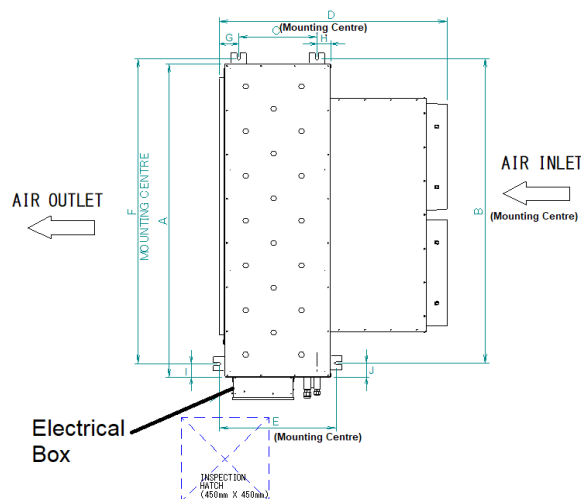

Fig. 3
- (1) Refer to Table 1 and Fig. 3 for suspension bolt position and horizontal representation of the indoor unit.
- (2) Install the suspension bolt. (Fig. 3 & 4)
Attach the hanging bracket to the 8 mounting holes (16 mounting holes for models FDYA140/160AV1) located on the sides of the unit. (Fig. 3).